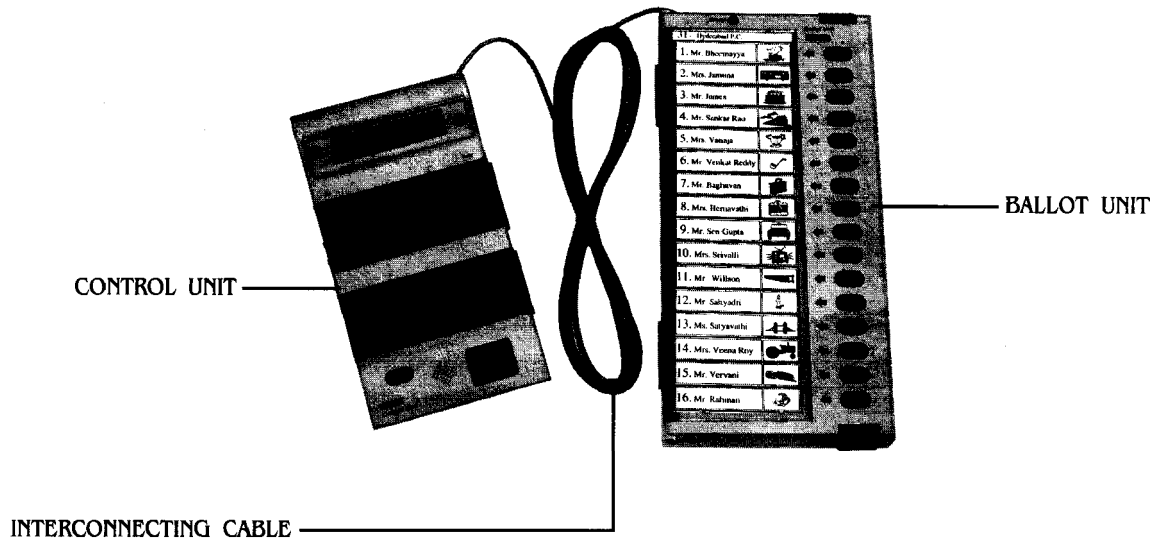

Fig.2 Items of EVM
- 8.1. After opening the carrying cases verify that the cases contain the items shown in Fig. 2 (i.e., Ballot Unit along with the interconnecting cable and Control Unit.)